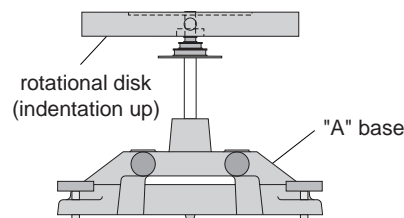

Figure 7.1: Assembly for Dropping Ring onto Disk
- ① Level the apparatus using the square mass on the track.
- ② Assemble the Rotational Inertia Accessory as shown in Figure 7.1. The side of the disk with the indentation for the ring should be up.
- ③ Mount the Smart Pulley photogate on the black rod on the base and position it so it straddles the holes in the pulley on the center rotating shaft.
- ④ Run the Smart Pulley Timer program.